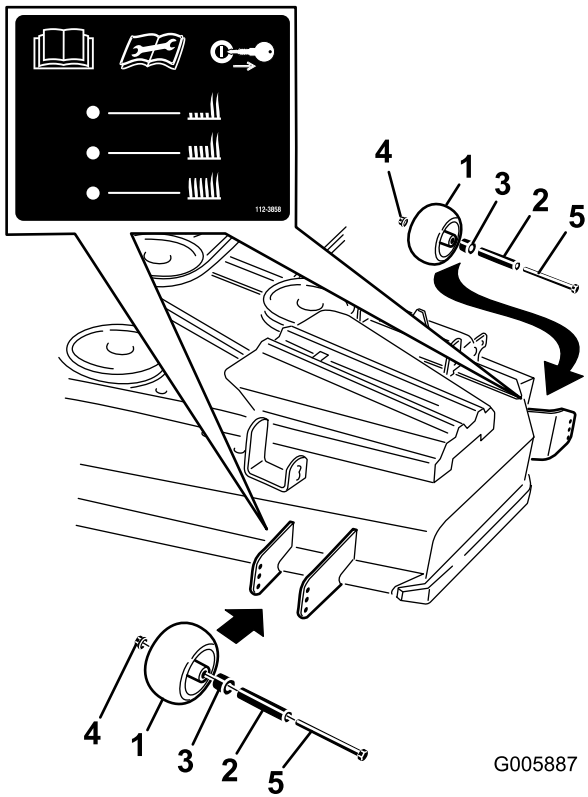
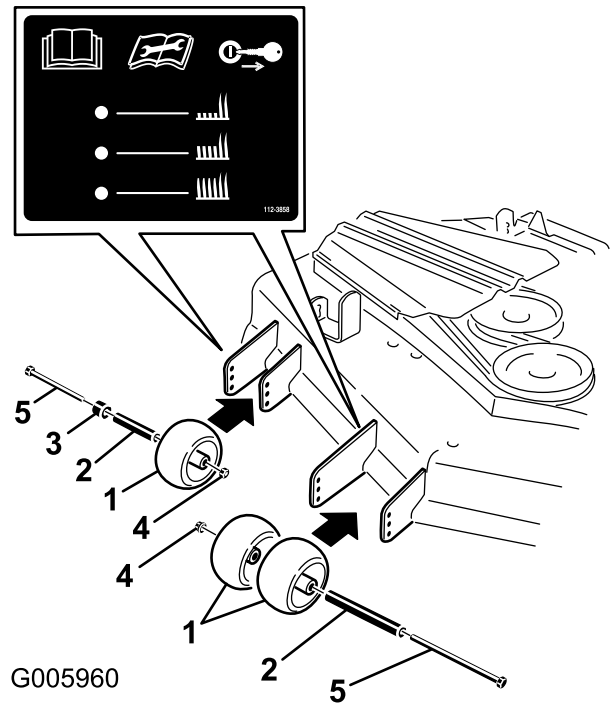

Figure 19
Figure 20
3. After adjusting the height of cut, adjust the rollers by removing the flange nut, bushing, spacer, and bolt (Figure 19 or Figure 20).
- Note:** The 2 middle rollers do not have a spacer (Figure 19 or Figure 20).
5. Install the flange nut bushing, spacer, and bolt. Torque to 54 to 61 N·m (40 to 45 ft-lb) (Figure 19 or Figure 20).